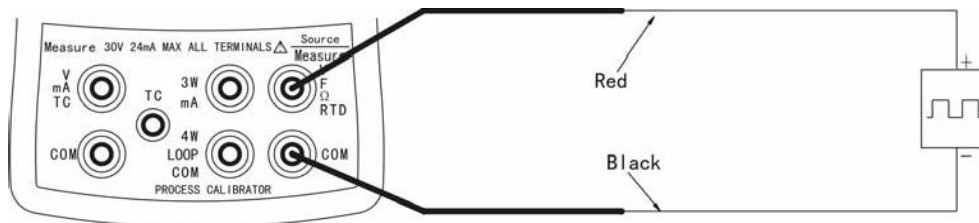

Figure5-7 Connection of Counting Pulse
- (1) Press  until the lower display shows "MEASURE".
- (2) Press  to select counting pulse until the display shows "COUNT".
- (3) Connect the test leads as shown in Figure5-7.
- (4) Press  to start counting, and press  again to stop counting. Press  to clear the result.